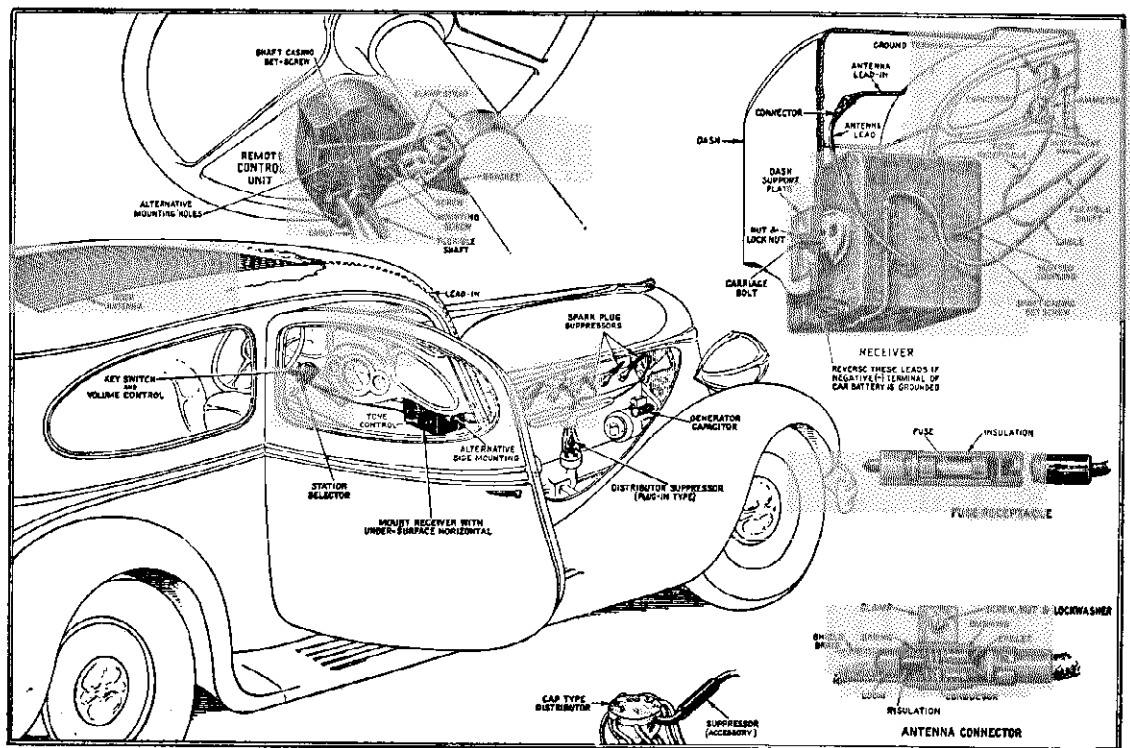

Figure 1
3. CHECK POLARITY OF AUTOMOBILE STORAGE BATTERY SUPPLY. If the negative (-) side is grounded to car frame, make changes to chassis connections shown in Figure 1. Do not disturb these connections if positive (+) side is grounded. (See details under "Mounting of Units"—page 5.) Replace case cover.
4. Determine most satisfactory mounting position (see details under "Location of Units"—page 4); spot mounting-bolt location and drill $\frac{1}{2}$ " diameter hole. Insert bolt through dash and assemble support plate and nuts on engine side. Hang receiver over bolt head and tighten nuts. (See Figure 1 and details under "Mounting of Units"—page 5.)
5. Attach remote control unit to steering column by means of mounting bracket and strap. (See Figure 1 and details under "Mounting of Units"—page 5.)
6. Assemble flexible shaft to receiver and remote control unit. (See Figure 1 and details under "Mounting of Units"—page 6.)
8. Connect terminal at end of black lead from cable to binding-post of automobile ammeter (see Figure 1 and details under "Connections"—page 7). The ignition by-pass capacitor (equipped with two leads) should be installed at this time. (See Figure 1 and paragraph 4 under "Suppression of Ignition Interference"—page 7.)
9. Install spark-plug and distributor suppressors; also generator by-pass capacitor (see Figure 1 and paragraphs 1, 2 and 3 under "Suppression of Ignition Interference"—page 7).